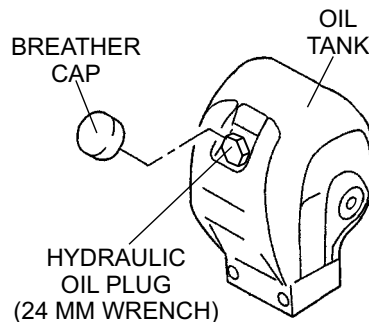

Figure 32. Hydraulic Oil Tank
1. Remove the breather cap and oil plug (Figure 32) from the hydraulic oil tank using a 24mm hex socket.